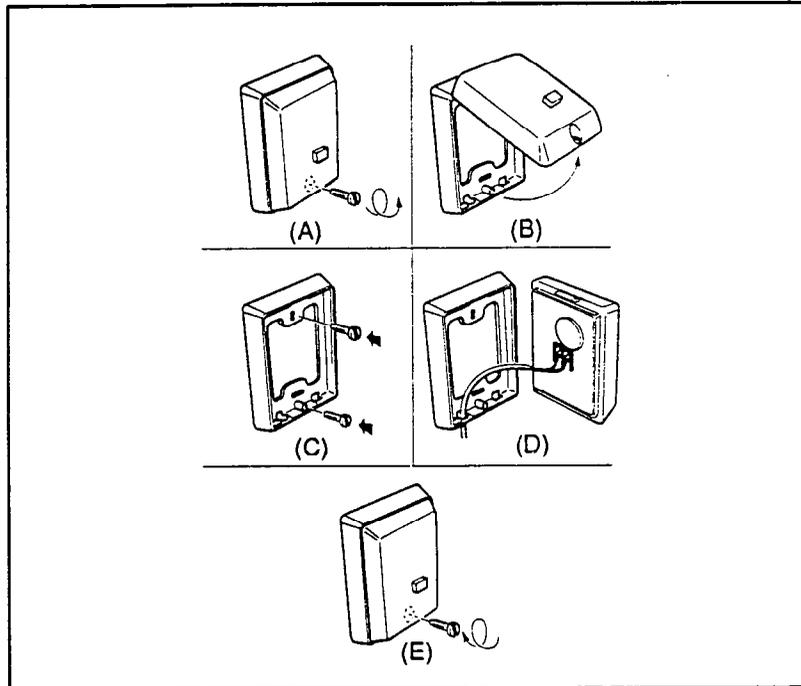

Figure 6-11 Door Module Installation
6.11 The Door Answer Unit should be wall mounted as described in the 'Mounting System Components' subsection of this Practice. To install the Door Modules, refer to Figure 6-11 and complete the following instructions: